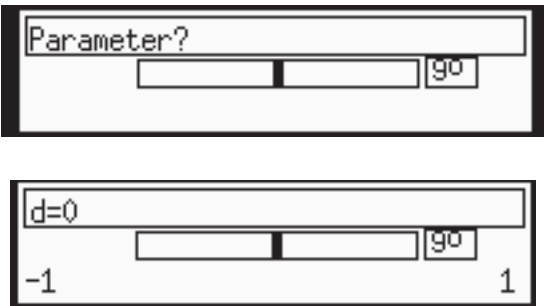

Figure 2.7. Top: Unused parameter slider. Bottom: Used parameter slider.
- (3) Use the little sliders (Figure 2.7). We will attach the parameter d to one of the sliders. Click on one of the unused parameter sliders. Fill in the dialog box as follows: